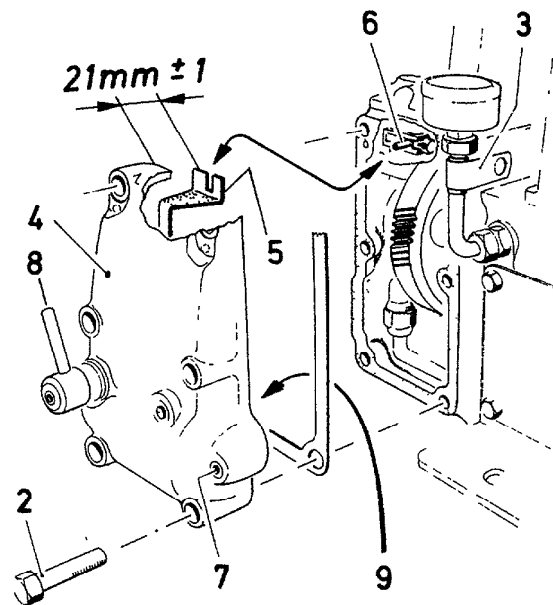

Fig. 54
Ensure that the pump spigot (see Fig 54, item 6) engages with the slot in the governor arm (Fig 54 item 5). This can be felt as a slight "click" or dead movement when the governor control lever (8) is turned in the "stop" position.
4. Insert screwdriver (5) in the gap in the pump shim (6) and pump housing so that the governor arm (Fig 54 item 5) can be carefully levered out and held in that position.